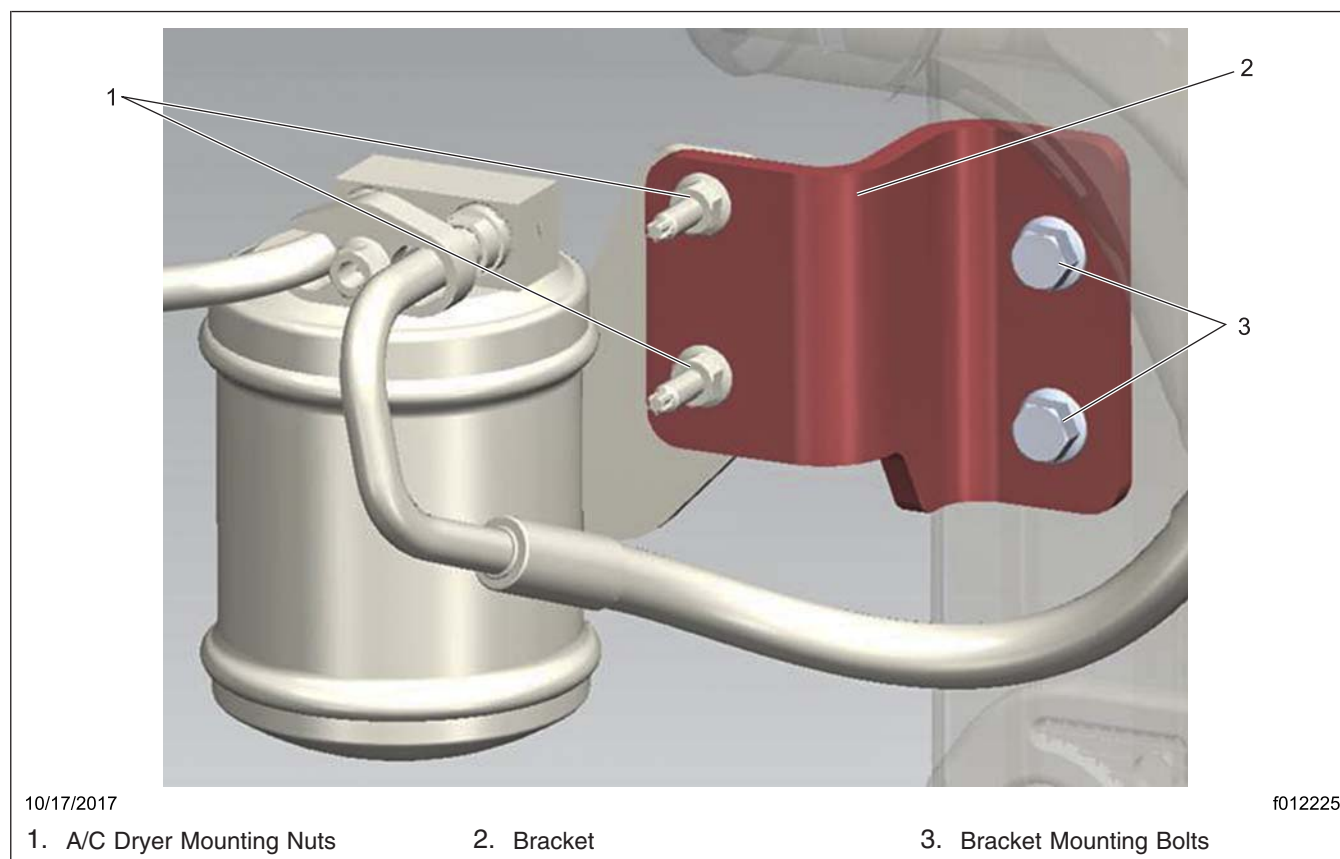

Fig. 5, Old A/C Dryer Mounting
1. Remove the mounting nuts from the A/C dryer and position the A/C dryer aside. Retain the nuts for installation. See Fig. 5.